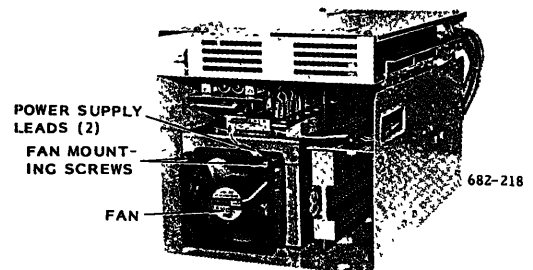

Fig. 22 Surge Absorber with Pressure Terminals Connected to Leads
2. Check the replacement surge absorber for model and capacity. Mount three surge absorbers after connecting M4 pressure terminals to their leads as shown in Fig. 22.